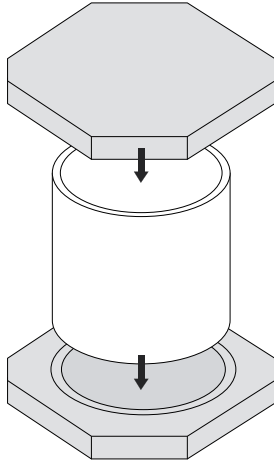

Figure 4
6. Apply one foam insert to both top and bottom of each can. (See Figure 4)